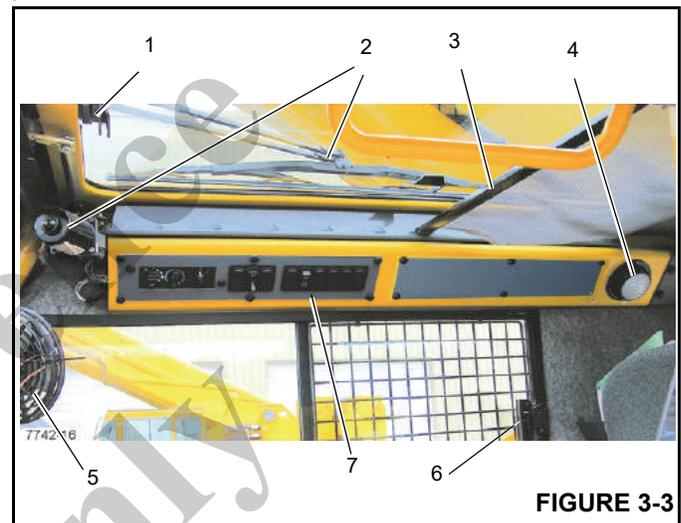
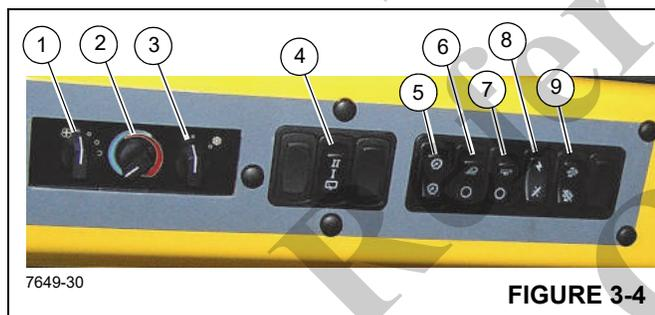

FIGURE 3-3
Figure 3-4 Item Numbers
The Skylight Window Latch (1, (Figure 3-3)) is at the front of the window. Squeeze the latch and slide the window to the rear to open. to close slide the window forward until the latch engages.
The Skylight Wiper (2, Figure 3-3) is controlled by the Skylight Wiper Switch, (4) (Figure 3-4), and operated by the Wiper Motor.
The Skylight Sunscreen (3, Figure 3-3) is used to diminish direct sunlight. The sunscreen is self retracting and can be set to screen all the light or adjusted rearward by moving it into the notches provided.
The cab Dome Light (4, Figure 3-3) is on the right rear corner of the cab overhead console and provides illumination in the cab. The dome light is controlled by a switch on the light.
The Cab Circulating Fan (5, Figure 3-3) is located on the left front side of the cab, above the window frame. A swivel allows the fan to be rotated and a switch on the fan base controls the fan. The switch has a high, low and off position.
The window on the right side of the cab can be open. Squeeze latch (6, Figure 3-3) to release the window and slide forward. To close slide the window rearward until the latch engages.
The Heater/Air Conditioner Fan Switch (1) (Figure 3-4) controls the cab fan's speed. Fan speed controls the volume of heated air output (or cooled air output) of the fan. Settings are off, low speed, medium speed, and high speed.
The Heater Control Switch (2) (Figure 3-4) controls intensity of heating temperature. Turn the switch to the right (clockwise) to open the valve for heat. (Heat comes from heated fluid going through the heater coil.) Turn the switch to the left (counterclockwise) to close the valve to stop fluid flow and minimize heat.
The Air Conditioning Switch (3) (Figure 3-4) controls the operation of the optional air conditioning system. Settings are off (O) and on (I).
The electrically-operated Skylight Wiper is installed to remove moisture from the skylight. The Skylight Wiper is controlled by the Skylight Wiper Switch (4) (Figure 3-4). This is a 3 position switch OFF/LOW speed/HIGH speed.
The Panel Dimmer Switch (5) (Figure 3-4) controls the lighting for the overhead heater/air conditioning controls and the Transmission Oil Temperature Gauge.(7) (Figure 3-3), push the switch to increase or decrease the panel lighting.
The Work Lights Switch (6, (Figure 3-4)) controls the crane's work lights mounted on the bottom front of the superstructure cab. Press the top of the switch to turn on the work lights. Press the bottom of the switch to turn off the work lights.
The Boom Lights Switch (7) (Figure 3-4) is located on the side display panel. This two-position rocker switch (ON/OFF) controls operation of the boom flood lights. Press the top of the switch to turn on the boom lights, press the bottom of the switch to turn the lights off.
The Crane Function Power Switch (8) (Figure 3-4) is located on the side display panel. This two-position (ON/OFF) rocker switch permits the operator to disconnect power from the crane functions controlled by the hydraulic remote controllers on the armrests. Positioning the switch to OFF prevents inadvertent operation of functions due to bumping the controllers while roading or any other operation. With the
The Engine DPF (Diesel Particulate Filter) Switch (9) (Figure 3-4) is located on the right side of the overhead control panel. This switch is a three position switch, Inhibit Regen/Permit Regen/Start Regen. Press this switch to start engine regeneration or to disable regeneration: